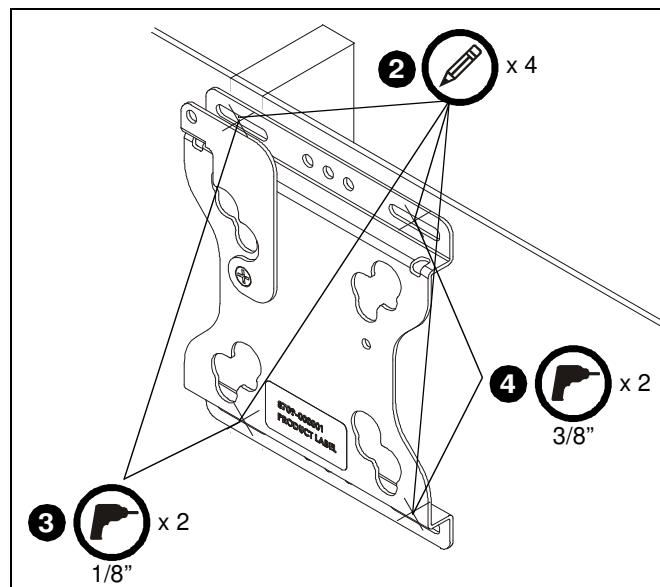

Figure 2
4. Drill 3/8" anchor holes in the other two marked locations. Ensure holes are straight and completely through drywall. (See Figure 2)